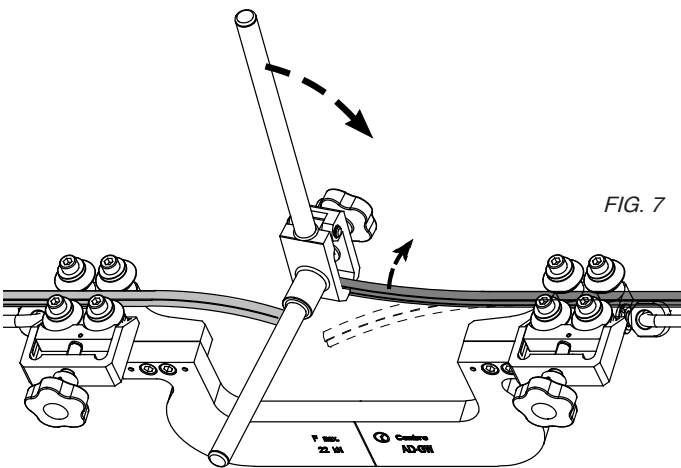

FIG. 7
- 6** (Ref. fig. 7) If necessary, use the **HC-GW** adjusting device to correct any bend in the contact wires.